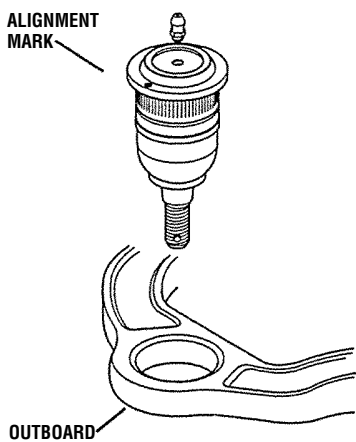

FIGURE 3
13. Position the new ball joint in the upper control arm with the drilled-hole alignment mark facing outboard toward the wheel (SEE FIGURE 3).